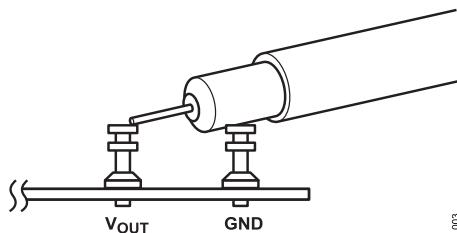

Figure 3. Scope Probe Placement for Measuring Output Ripple Voltage
6. Once the input and output voltages are properly established, adjust the input voltage between 6V to 14V max and the load current within the operating range of 0A to 31.25A max per channel. Observe the output voltage regulation, output voltage ripples, switching node waveform, load transient response, and other parameters. See Figure 3 for proper output voltage ripples measurement.
To measure the input/output voltage ripples properly, do not use the long ground lead on the oscilloscope probe. See Figure 3 for the proper scope probe technique. Short, stiff leads need to be soldered to the (+) and (-) terminals of an input or output capacitor. The probe's ground ring needs to touch the (-) lead, and the probe tip needs to touch the (+) lead.